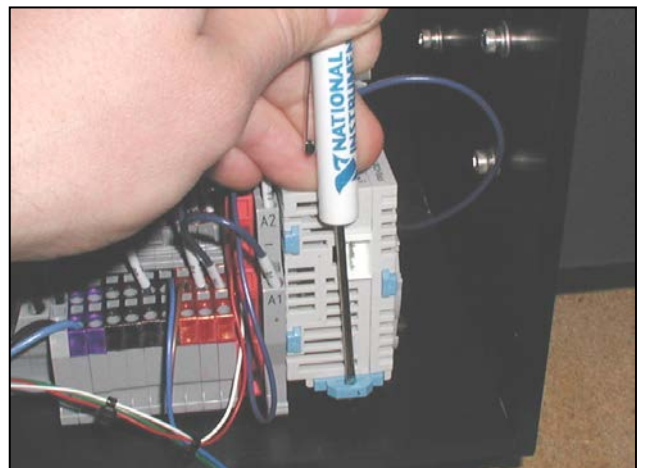

Figure 3-78. Removing PLC
4. Using a small flat screwdriver, pull the blue DIN rail release tab toward you and pivot the PLC up and back (Figure 3-78).